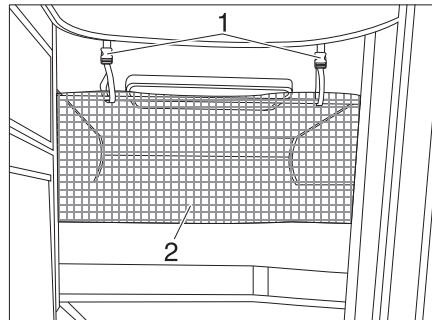

Fig. 161 Safety net
The safety net (Fig. 161,2) is stored as standard between the mattress and slatted frame. Do not use the safety net until the person is already in bed.
- Fasten the retaining straps (Fig. 161,1) to the holders on the ceiling.